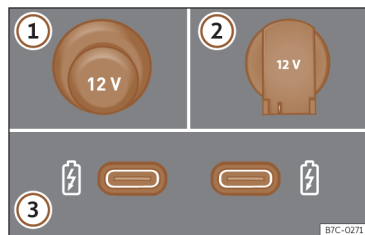

Fig. 122 Vehicle 12 volt socket.
12 volt power socket»» Fig. 122:
- Remove the cover from the socket, located on the centre console»» Fig. 122 ①.
- Lift the power socket cover»» Fig. 122 ②.